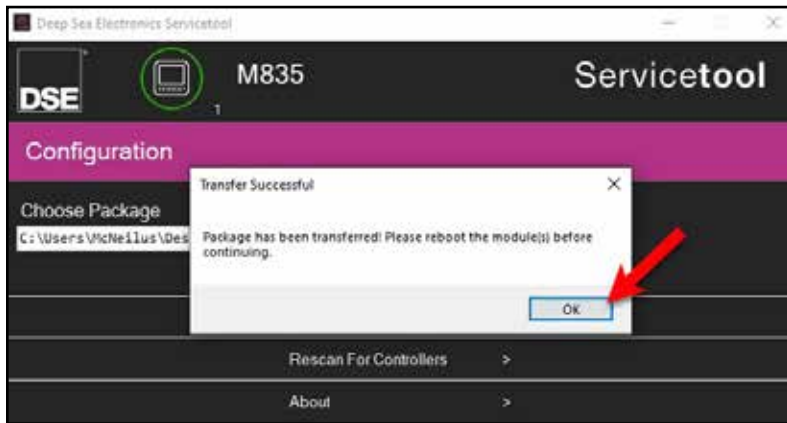

Figure 13
13. Click OK and close out of the DSE Service Tool (Figure 13).